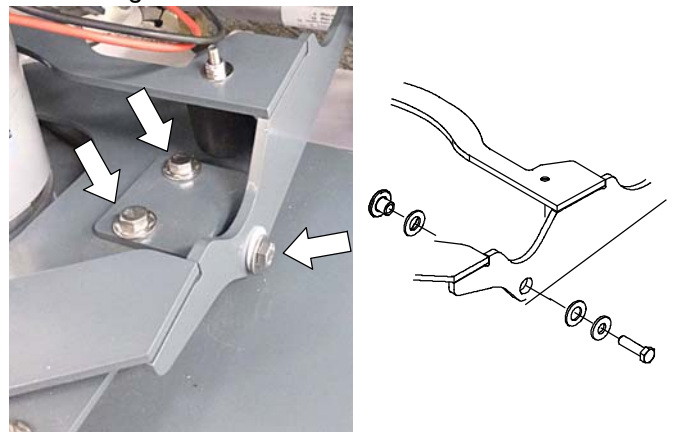

Fig. 15
16. Attach the left side of the orbital scrub head to the lift bracket using 1 flange sleeve, 2 nylon flat washers, 1 metal flat washers and 1 M8x1.125x30 hex screw (Figure 15). After attaching the scrub head tighten the two alignment bracket screws.